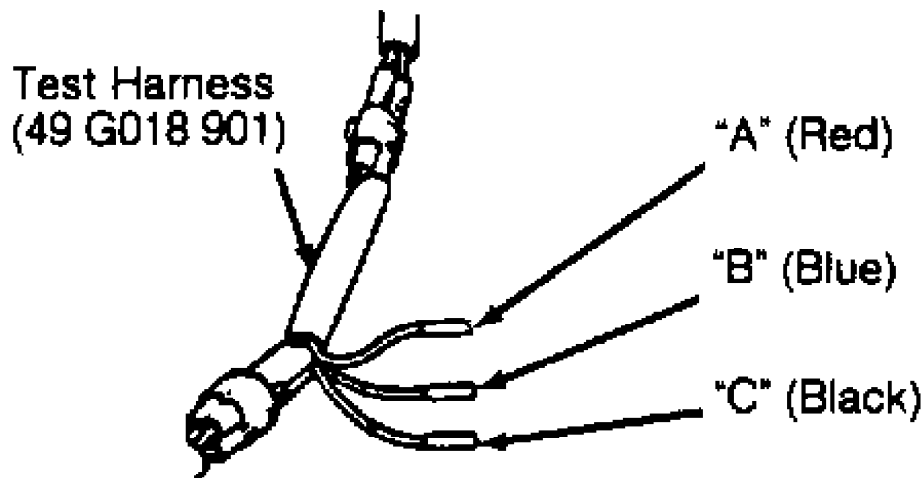

Fig. 13: TPS Test Harness Terminal ID B2200 PFI, B2600i, MPV 2.6L, MX-6 & 626
2) Turn ignition on. Ensure that throttle valve is fully closed. Using a voltmeter capable of measuring voltage variations of .01 volt, measure voltage at Red and Black wires of test harness. See Fig. 13.